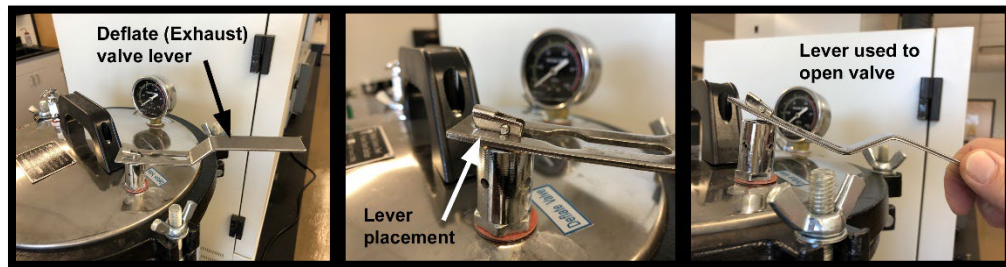

Figure 3. Placement and use of exhaust valve lever for releasing steam pressure.
- d. The sterilizer will continue to heat the water until a temperature of 105°C is reached (approximately 20 minutes). At this time, an alarm will sound (for 10 seconds) indicating that it is time to release some of the pressurized steam so that cooler air retained in the sterilizer may be exhausted from the sterilizer (see Figure 3).